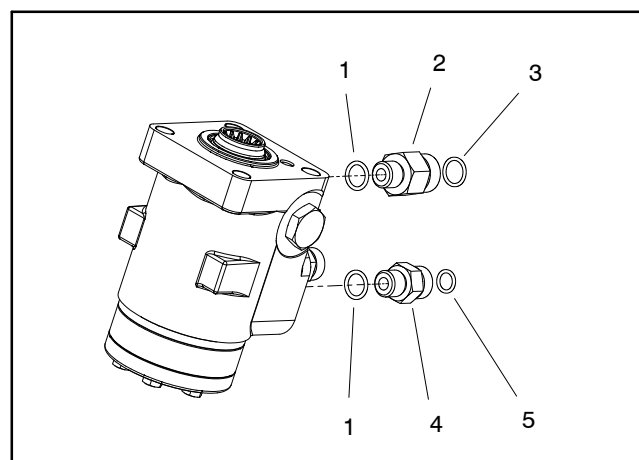
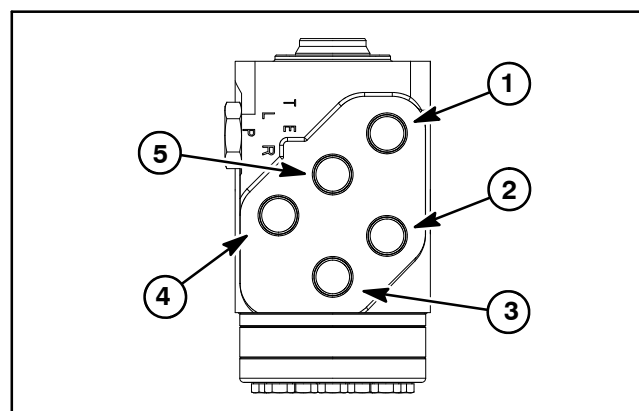

Figure 128
Figure 129
3. Label all hydraulic lines and fittings at steering control valve for assembly purposes. Note port designations on steering control valve (Fig. 129). Thoroughly clean hydraulic connections prior to loosening hydraulic lines.
6. While supporting steering column to prevent it from falling, loosen and remove four (4) carriage screws (item 8) and flange nuts (item 11) that secure steering column assembly to machine. Locate and retrieve four (4) washers (item 10) and mounts (item 9).
9. Loosen and remove three (3) flange head screws (item 12) and one (1) socket head screw (item 13) that secure steering column to steering control valve. Note location of socket head screw for assembly purposes.
10. Remove steering control valve (item 6), alignment bushing (item 4) and steering plate (item 7) from steering column.
11. If necessary, remove fittings and O-rings from steering control valve (Fig. 128). Discard all removed O-rings.